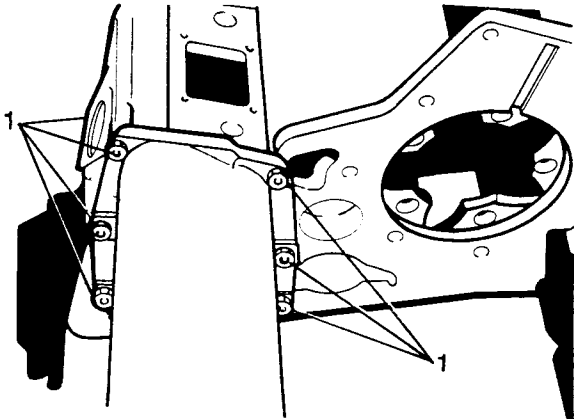

Fig H1.92
- (7) Refer to Fig H1.92. Replace the fixings (1) of the output shaft cover. Tighten the nuts to 12 to 17 N.m.